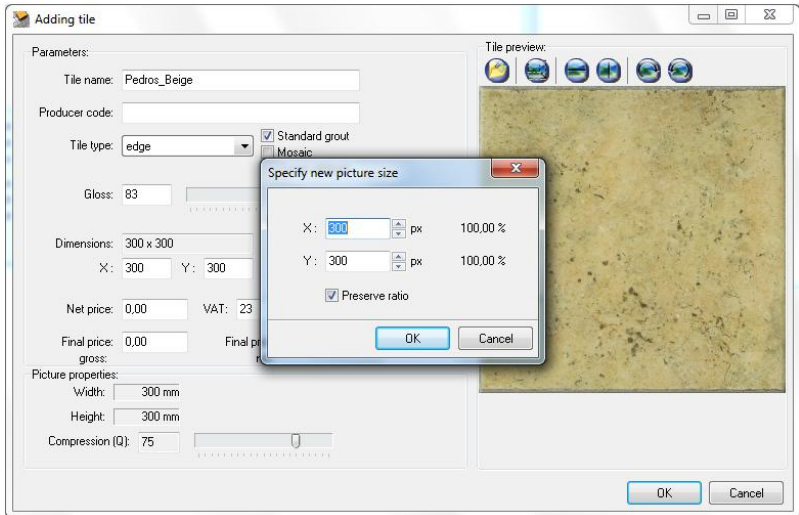

Fig. 211 – scaling the preview picture
- **Load the picture from the disk** - use it to download a preview file for the tile from any location (also under <Ctrl + O>); after loading the picture file other icons become active, this is: the scaling, flipping and rotation buttons. Scaling has been presented on the picture below (Fig. 211).